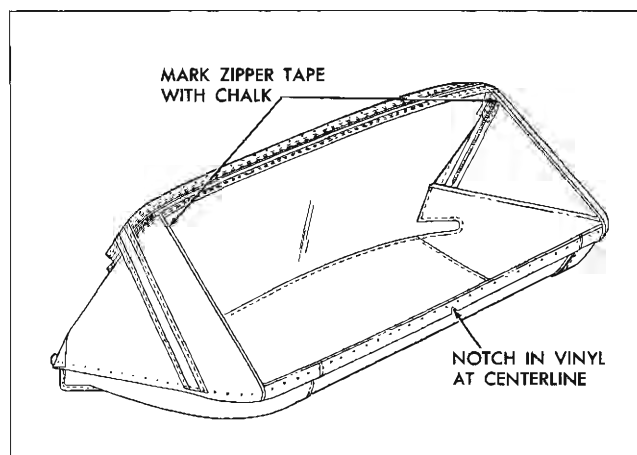

Fig. 21-39 Marking Zipper Tape
14. Using chalk or similar material, mark zipper tape at upper edge of vinyl (Fig. 21-39).
NOTE: Notch in back curtain vinyl at lower edge indicates centerline of back curtain assembly. (See Fig. 21-39). In addition, back curtain lower edge should extend approximately 1/2" below lower edge of trim sticks.
6. Tack curtain to rear and rear quarter trim sticks. Turn forward edge of material rearward to form a water barrier (Fig. 21-39).